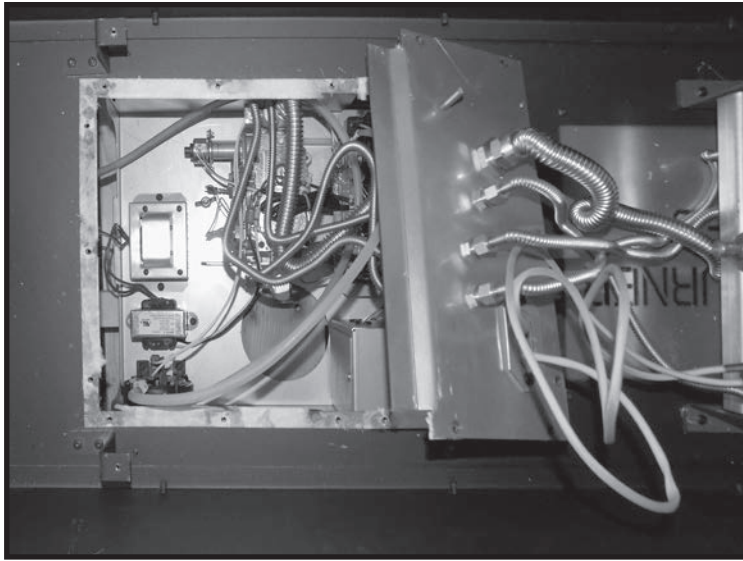

Figure 43: Small plate lifted to provide access to connector.
3. Remove screws for the small cover panel and lift the panel and flexible gas lines enough to be able to get your hand underneath it (Figure 43).